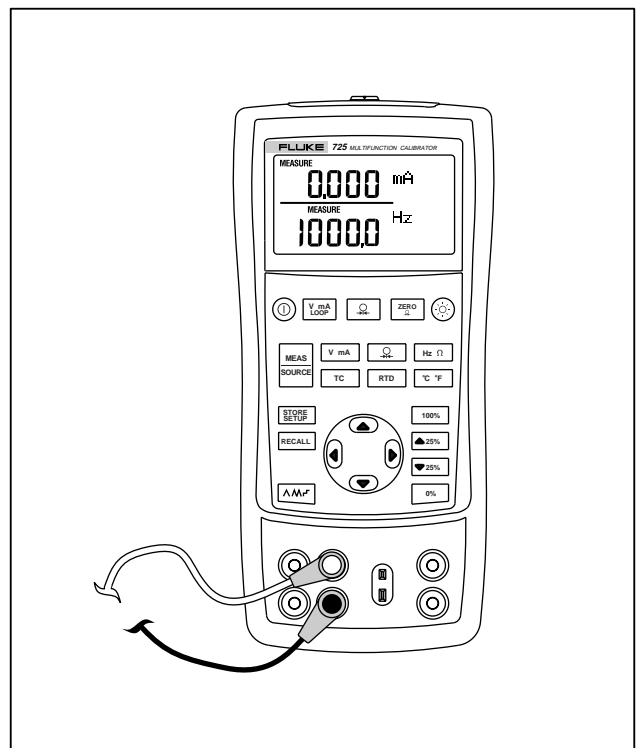

Figure 8. Connections for Supplying Loop Power
1. Connect the calibrator to the transmitter current loop terminals as shown in Figure 8.